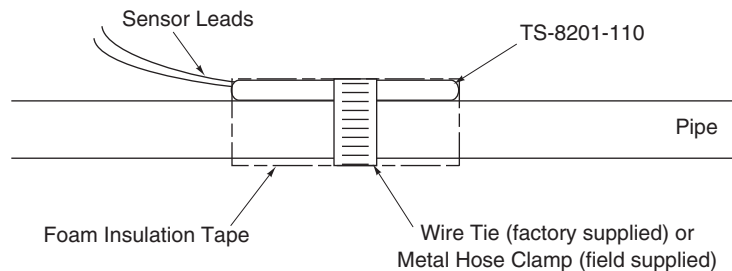

Figure-6 TS-8201-110 Strap-On Sensor Installation.
1. Foam insulation tape should be placed over the sensor (Figure-6). Extend insulation beyond the ends of the sensor.